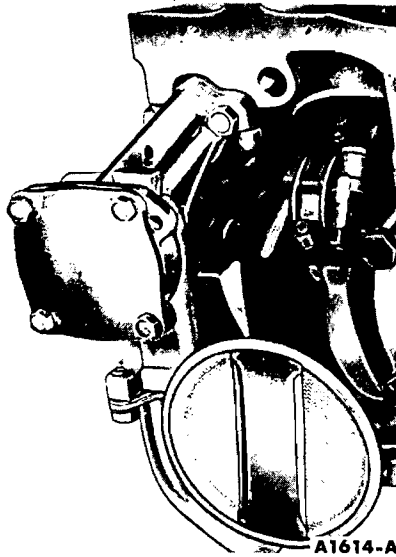

FIG. 65—Oil Pump and Inlet Tube Installed
4. Clean the oil pump inlet tube and screen assembly (Fig. 65).